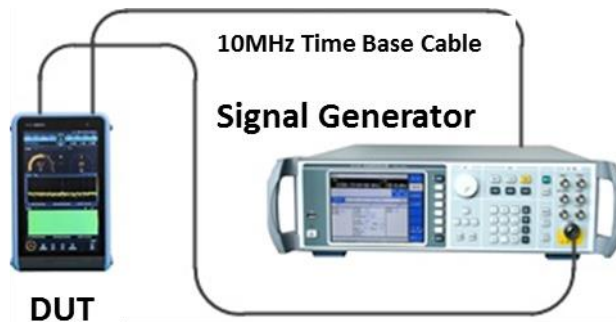

Fig. 8.6 Schematic diagram of phase noise test
- 1) Connect the test equipment according to Fig. 8.6, the device to be tested and the synthesized signal generator common time base.